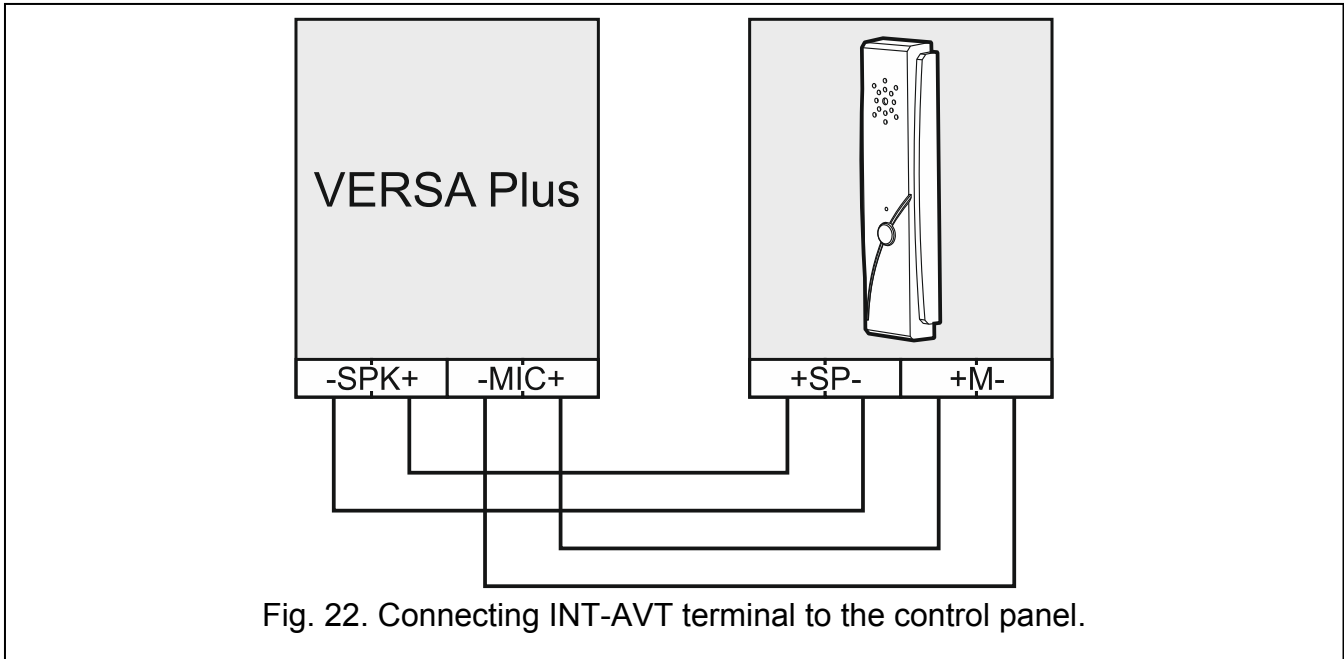

Fig. 22. Connecting INT-AVT terminal to the control panel.
7. Connect the INT-AVT terminals to the corresponding terminals of the control panel (see Fig. 22).